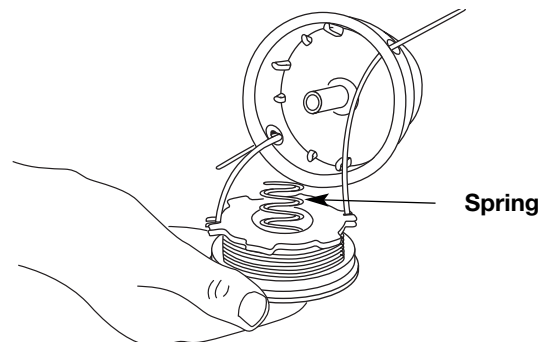

Fig. 24
- Insert the ends of the line through the eyelets in the outer spool and place inner reel with spring inside the outer spool (Fig. 24). Push the inner reel and outer spool together. While holding the inner reel and outer spool, grasp the ends and pull firmly to release the line from the holding slots in the reel.
5. Insert the ends of the line through the eyelets in the outer spool (Fig. 24).